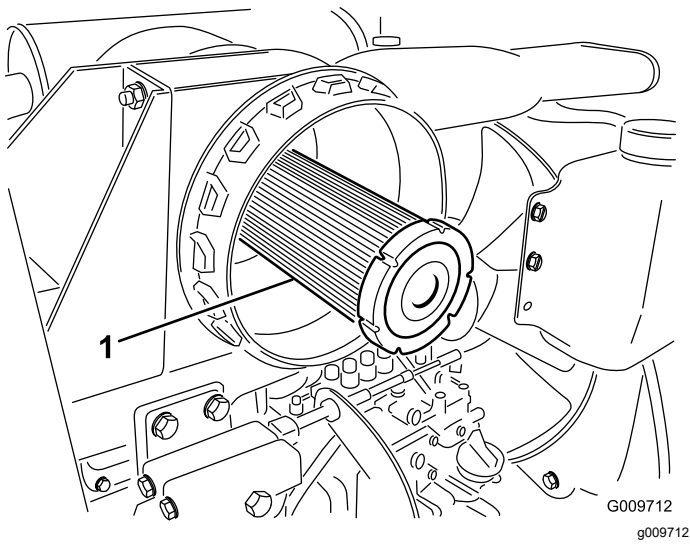

Figure 82
**Important:** Never attempt to clean the safety filter (Figure 82). Replace the safety filter after every 3 primary filter services.